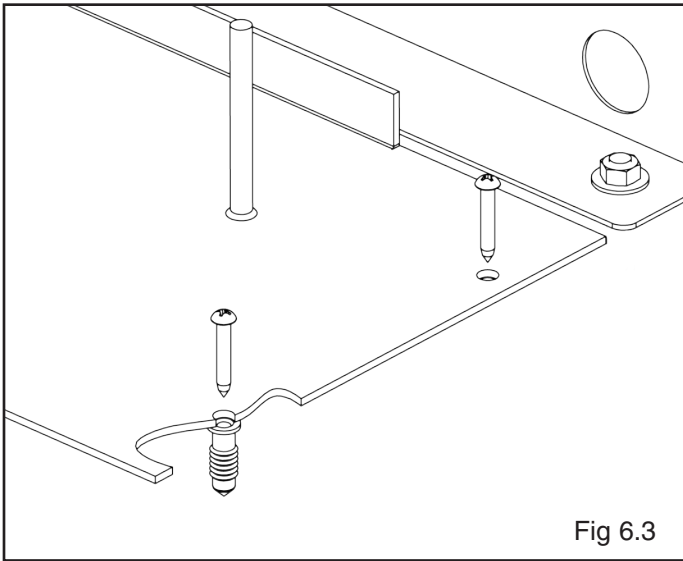

Fig 6.3
5. Replace the Valve Floor Plate so that the anchors line up with the mounting holes on the Valve Floor Plate. Make sure the Flat Head Screws are still mounted in the Floor Plate as they will be needed to mount the Valve Block assembly, and also make sure the Valve Floor Plate is oriented so that the "notched" side faces away from the lift. Install four M5 Pan Head sheet metal screws to fasten the Valve Floor Plate to the concrete. (See Fig 6.3)